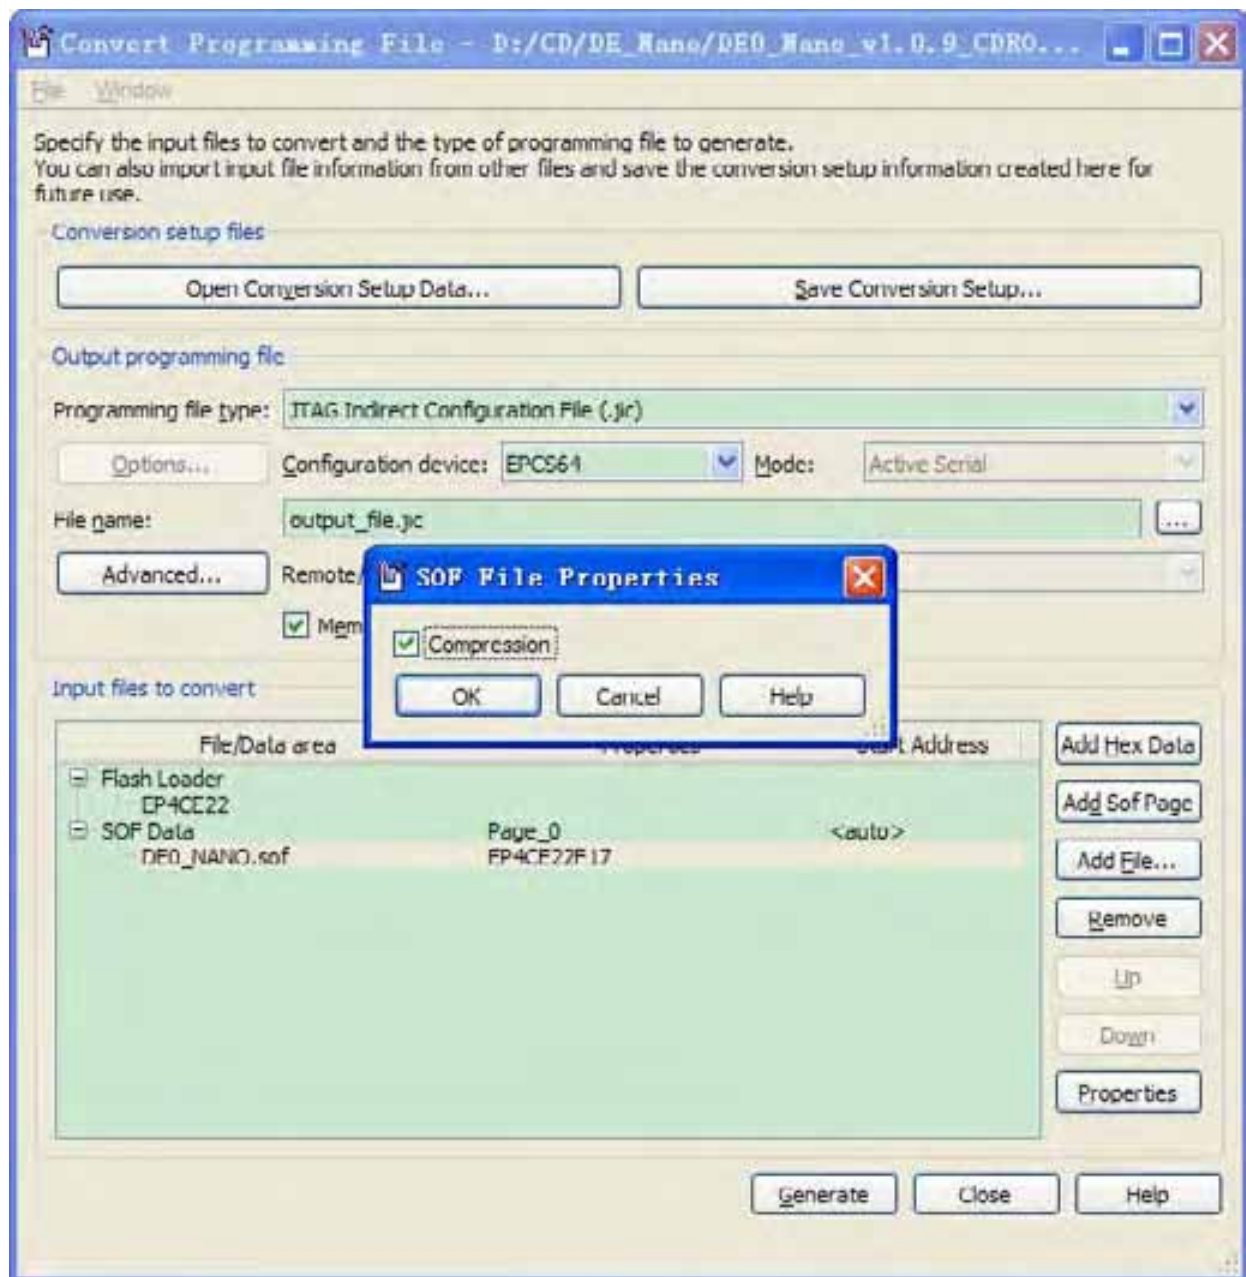

Figure 9-5 Compression the sof file
13. Select the .sof file, and Click the **Properties**. Select Compression, click **OK**, as shown in Figure 9-5.